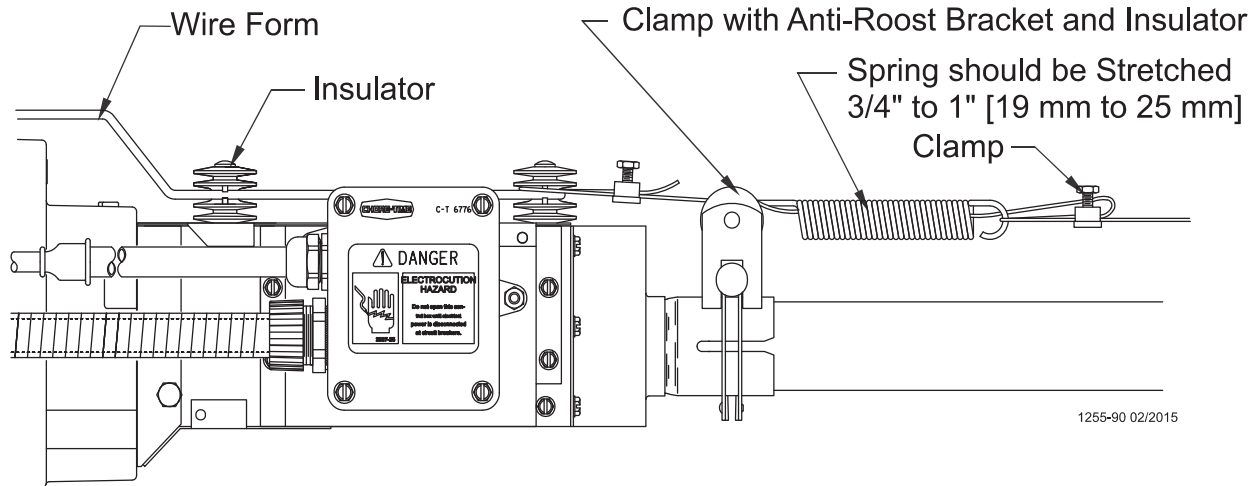

Figure 42. Anti-Roost Installation at the Control Unit
9. At the control unit, after clamping the cable to the spring, cut the cable about 8" to 10" [200 to 250 mm] longer than necessary. Feed the end of the cable through the center of the spring, around the first insulator on the control unit, and clamp the cable using the cable clamp supplied with the control unit. See **Figure 42**.
10. Install the wire form on the control unit insulators. Be sure the guard snaps into the retainers molded into the insulators. See **Figure 42**.